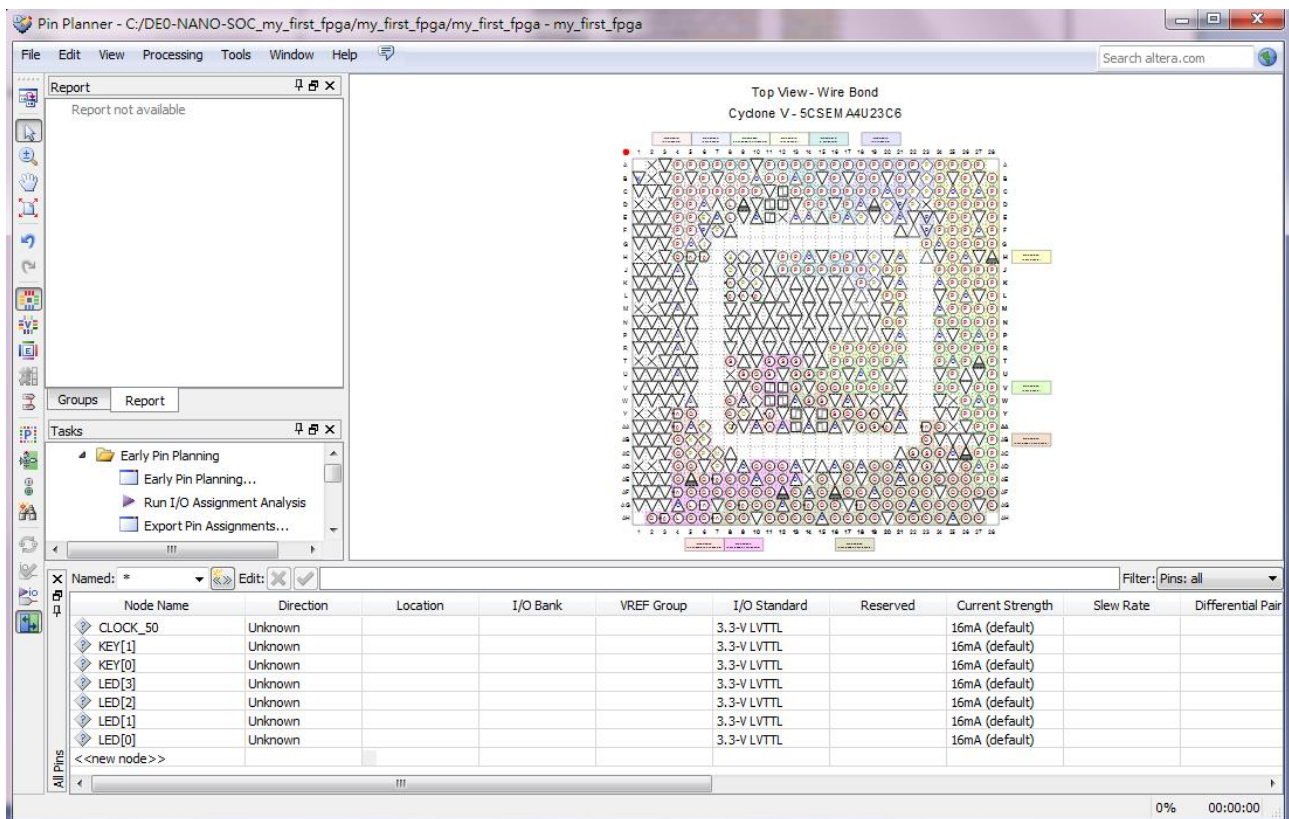

Figure 3-32 Pin Planner Example
1. Choose Assignments > Pin Planner, which opens the Pin Planner, a spreadsheet-like table of specific pin assignments. The Pin Planner shows the design's six pins. See Figure 3-32.